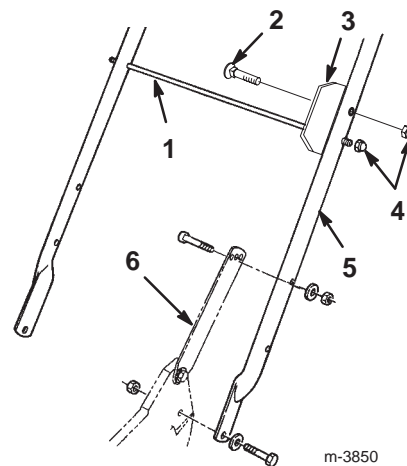

Figure 1
2. Secure the handle latches to the handle with two 5/16–18 x 1-1/2 in. (8 mm x 38 mm) cap screws, washers, and nylon insert locknuts (Fig. 1).
3. Slide the bag support rod through the bag aligning plate and into the second from the top mounting holes in the handle and secure each end with a cap locknut (Fig. 1).